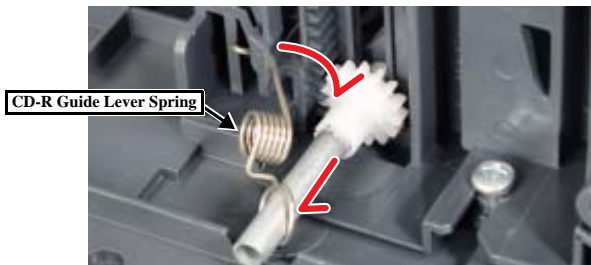

Figure 4-41. Removing the CD-R Guide Lever Spring
4. Lower the CD-R Guide, slide the shaft side of the CD-R Guide Lever Spring, release its hook side end, and remove the spring. (Fig. 4-41)